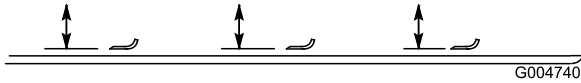

Figure 86
2. Rotate the blade until the ends face forward and backward (Figure 86). Measure from the inside of the cutting unit to the cutting edge at the front of the blade. Remember this dimension.